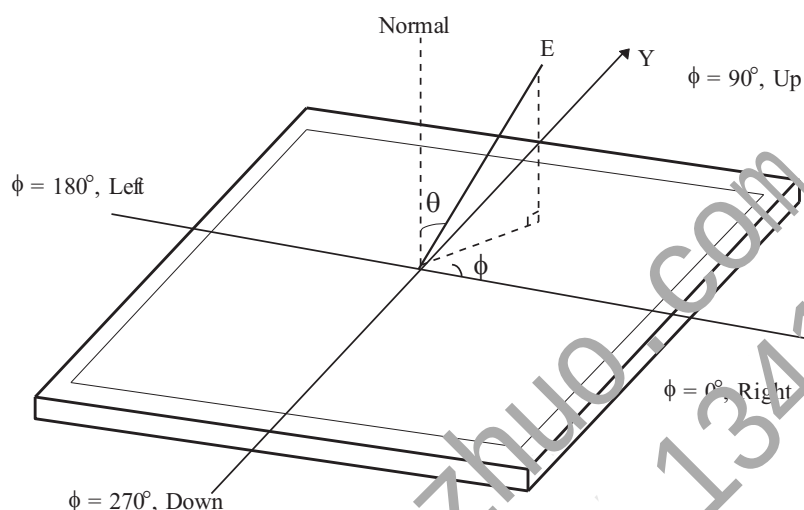

FIG. 4-4 Viewing Angle
- 5) **Viewing Angle** is the angle at which the contrast ratio is greater than 10. The angles are determined for the horizontal or x axis and the vertical or y axis with respect to the z axis which is normal to the LCD surface. For more information see FIG.4-4. **(By PR880)**